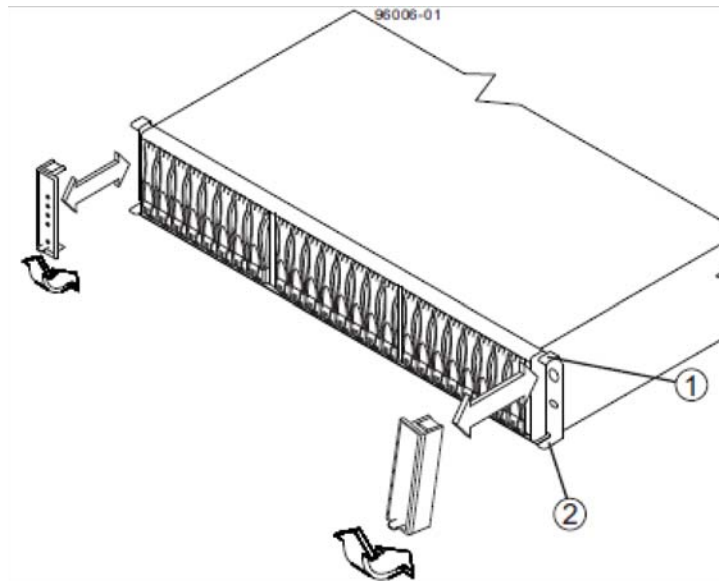

Figure 2-12 Attaching End Caps to the IS2224 Storage Enclosure
11. Secure the enclosure's plastic front-end caps by referencing Figure 2-12 on page 23 and performing the following substeps:
- Put the top of the end cap on the hinge tab (1) that is part of the storage enclosure mounting flange.
- Gently press on the bottom of the end cap until it snaps into place over the retainer (2) on the bottom of the storage enclosure mounting flange.